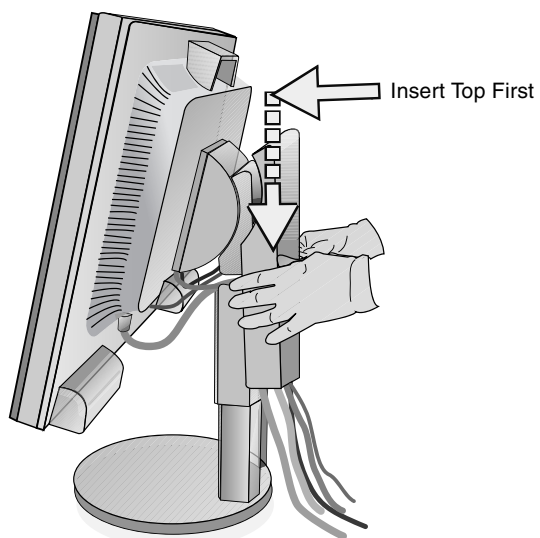
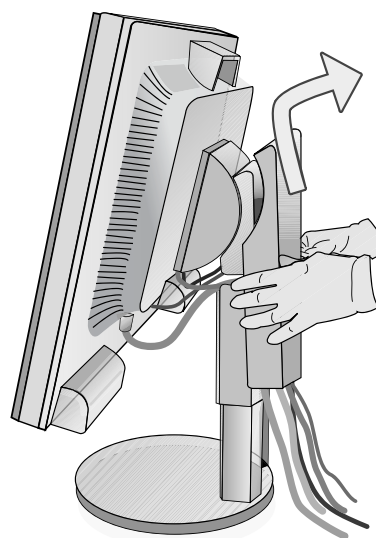

Figure D.1
Figure D.2
- Hold all cables firmly and place the cable cover onto the stand (**Figure D.1**). To remove the cable cover, lift the cover off as shown in **Figure D.2**.